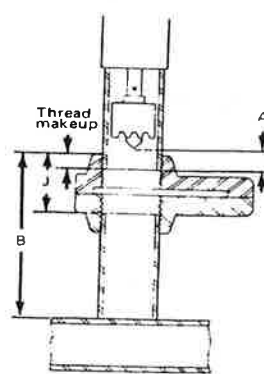

Figure 32. Threaded Valve Adapter
- B. Calculate lower-in distance for pilot drill tip to contact pipe. (Boring bar fully retracted and feed tube at zero mark on body tube.) Refer to Figures 32 or 33.